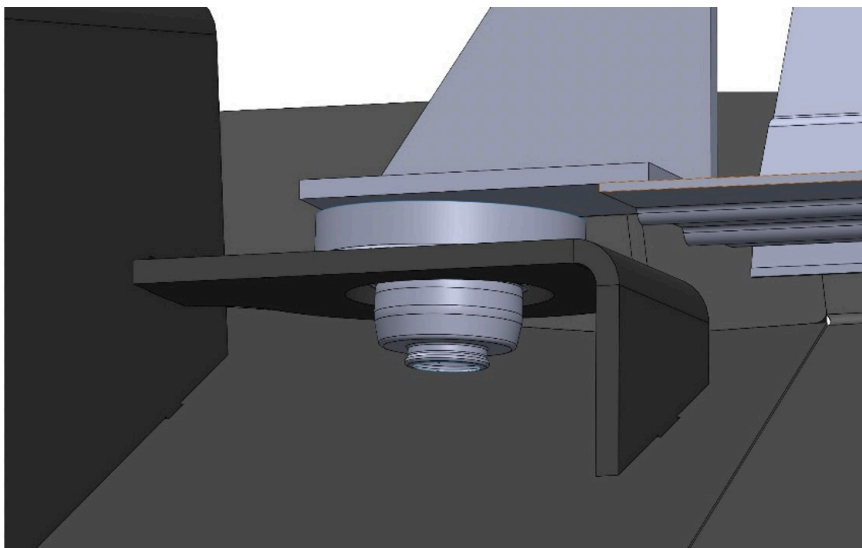

Figure 4
4. With assistance hold the skid plate up to the frame, place the intercooler lower bump stops into the skid plate mounts and place the upper stops back into their mounts as you push the skid plate in place. Figure 4.